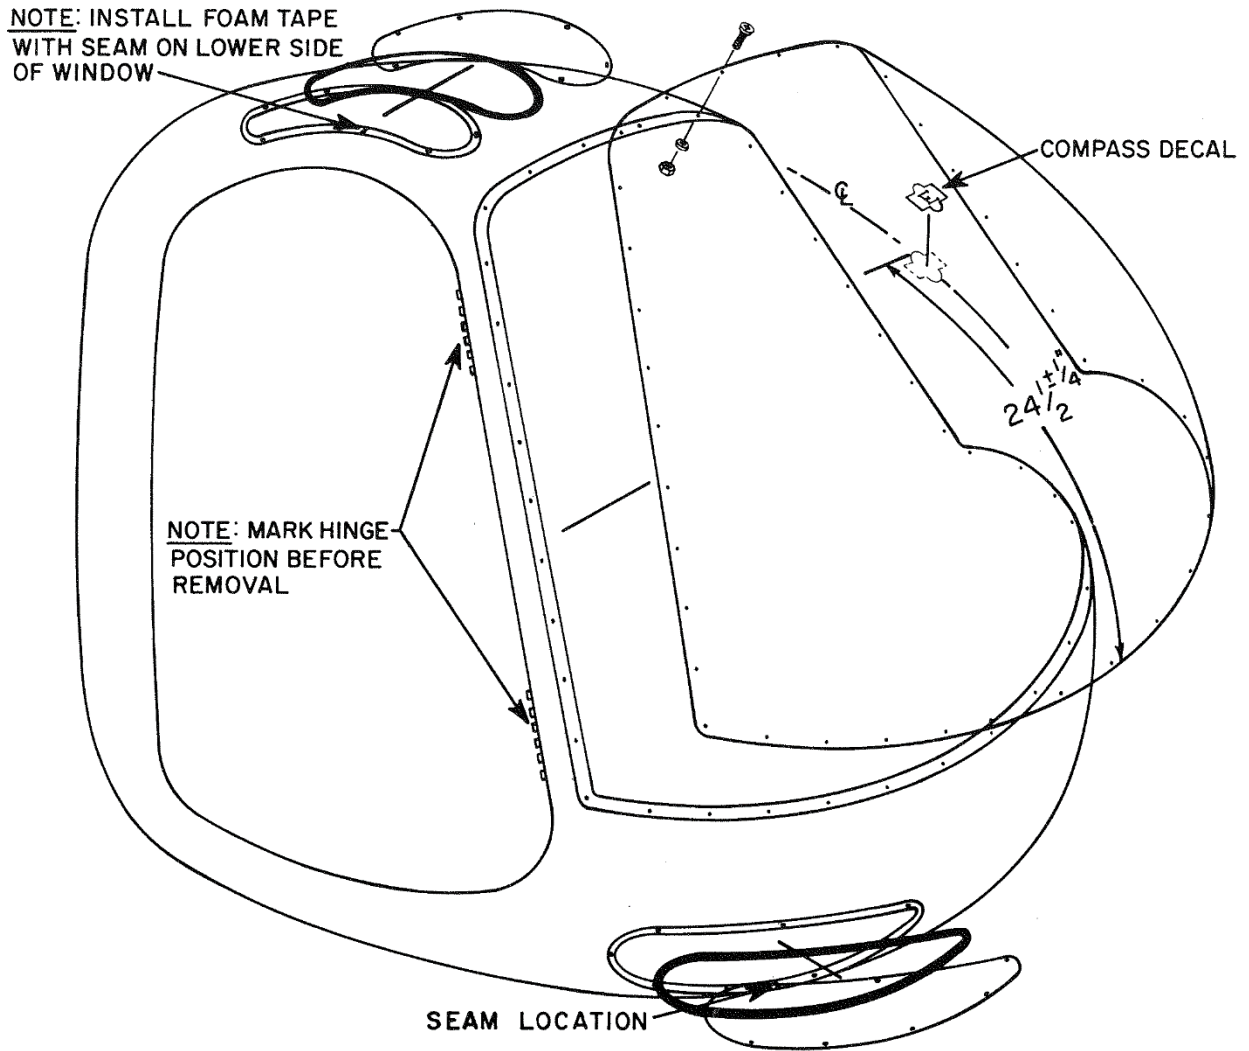

Figure 8-2. F-28F Windshield
C. Windshield Removal (F-28F) (See Figure 8-2)
D. Windshield Installation (F-28F) (See Figure 8-2)
15. Install compass to windshield as follows: (see Figure 8-2)